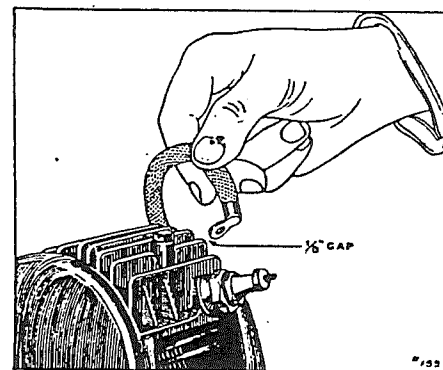

Fig. 3.
25. To be sure that you have a spark at the spark plug, you can remove the wire from the plug and hold it within  $\frac{1}{8}$ " of any metal part of the motor (See Fig. 3). Keep the hand back on the insulated part of the wire so that you will not get a shock. Then crank the motor and see if a spark will jump this  $\frac{1}{8}$ " gap. If it does, you will know that the spark is amply strong to jump the small gap at the spark plug when in the motor under compression. This test is